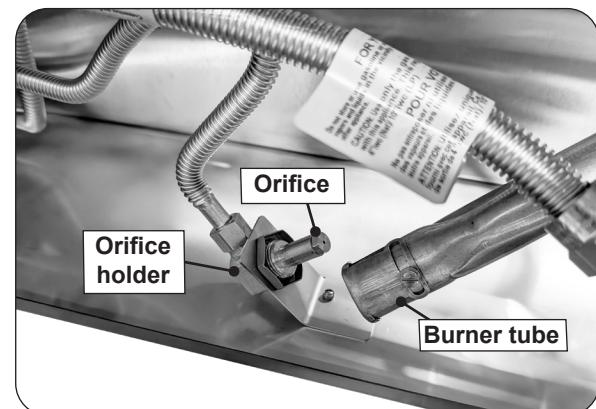

Fig. 40-2 Change orifice detail
5. Using a 3/8" socket nut driver, remove the orifice from the orifice holder (see Fig. 40-2) and check the number stamped on the orifice face.
7. Replace the side burner tube (Fig. 40-2) over the orifice, aligning the burner over the electrode, taking care not to detach it from the wire.